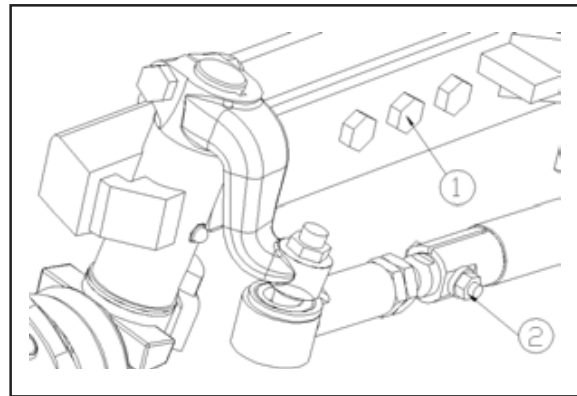

Fig.114
2. Remove the bolts and nuts (1, Fig.114) each side.
3. Remove the tie rod bolts (2) each side.
5. Refit the six bolts and nuts (1) through the appropriate axle beam holes and the tie rod bolts (2) similarly.